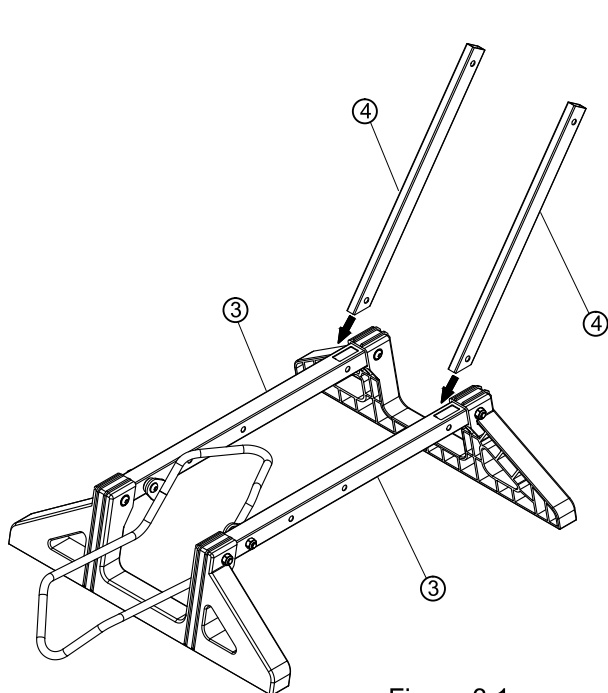

Figure 3.1
1. Insert the uprights④ into the holes of the brackets③, with the slanted end of the brackets③ facing downward. (See Figure 3.1)